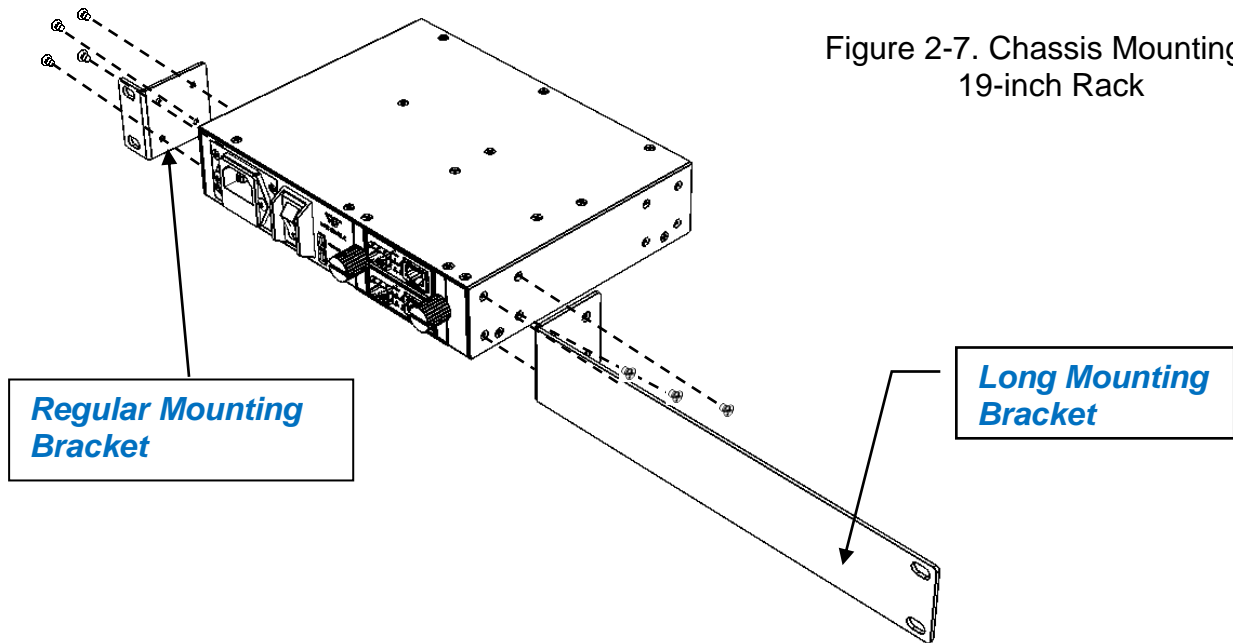

Figure 2-7. Chassis Mounting in 19-inch Rack
- 1.1. Attach the supplied regular mounting bracket to one side of the chassis that you would like to install in the rack. (See Figure 2-7)
- 1.2. Attach the supplied long mounting bracket to the other side of the chassis. (See Figure 2-7)
Step 2. Insert the screws provided in the rack-mount kit through each bracket and into the bracket mounting holes in the chassis. (See Figure 2-7)